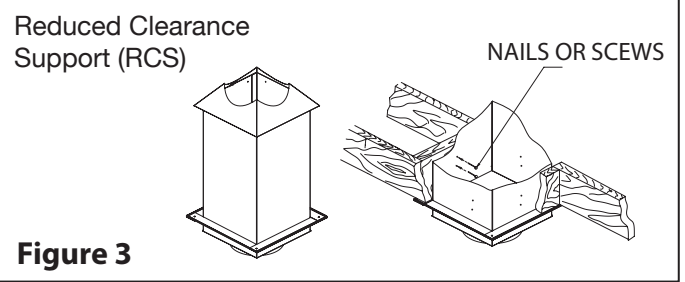

Figure 3
When using the Reduced Clearance Support (RCS) at the attic level, the use of the attic radiation shield is not required. The Reduced Clearance Support (RCS) acts as an attic radiation shield when installed with insulation and a collar (provided) (see figure 3).
Step 3: From below, push the Reduced Clearance Support into the framed opening in the ceiling. Ensuring the support is level, attach the support to the framed opening using (12) - 3" spiral nails or #8 x 1 1/2" wood screws (see Figure 3). At least 3 1/2" of the support must extend into the room. Screw the Finish Trim (included) to the ceiling.